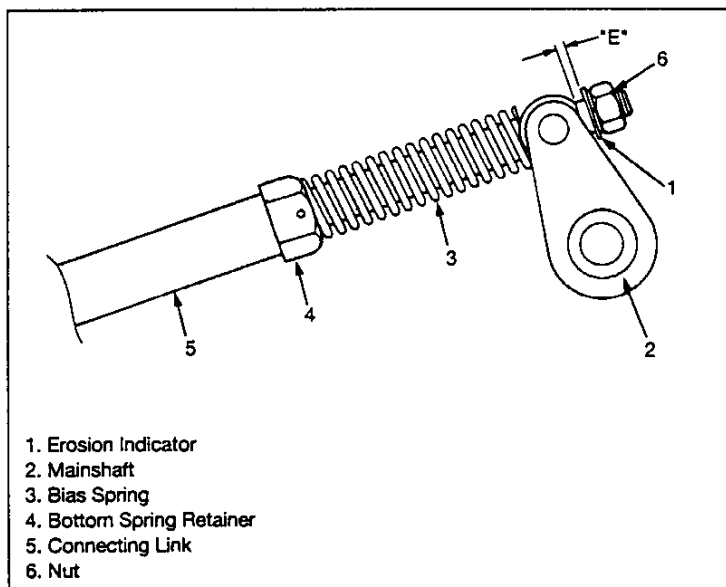

Figure 11: Spring overtravel adjustment
Spring Overtravel—When the circuit breaker is in the *closed* position with the closing springs charged, the spring overtravel (distance E, figure 11) for a new vacuum interrupter assembly should be $3/16" + 1/16" - 1/32"$ (4.8 mm + 1.6 mm - 0.8 mm). Follow these steps to adjust the setting:
- 2) Check the spring overtravel. If adjustment is necessary, remove the nut (figure 11) at the end of the drive connecting link.
- 3) Insert the T-handle adjustment tool (part number T-1) into the slots in the end of the erosion indicator (figure 11); turn the erosion indicator clockwise to shorten or counterclockwise to lengthen the overtravel.